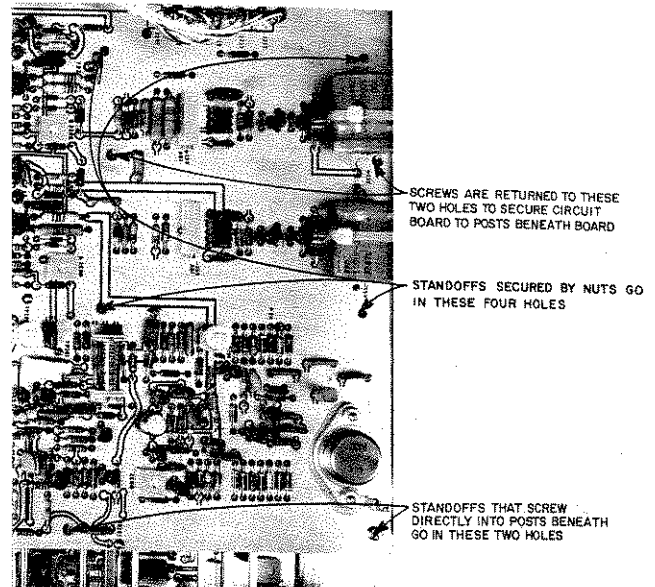

Figure IV-18. MODEL 162 UPPER CIRCUIT BOARD SHOWING DIGITAL STORAGE OPTION MOUNTING HOLES
- (1) Check to be sure that the Model 162 line cord is unplugged. Then remove the top cover, which is secured by two screws on the underside of the overhang at the rear of the instrument.
- (2) Remove the four screws that secure the mainframe upper circuit board in place. With the screws removed, it should be possible to rotate the board upwards (hinges are at left edge of board).
- (3) Take four of the six standoffs supplied and mount them with nuts in the four holes indicated in Figure IV-18. Note that these are NOT the four holes from which the screws were removed in the preceding step.
- (4) Rotate the board back to its original position and secure it, using two of the screws removed in step 2. Figure IV-18 indicates where the screws are to be located.
- (5) Take the remaining two standoffs and screw them into the front pair of holes as indicated in the figure.
- (6) Position the Digital Option board, component side up, and with the cable extending to the left, above the mainframe upper circuit board such that each of the six option-board mounting holes is directly above the corresponding mounting post (standoff) installed in the preceding steps.
- (7) Secure the Digital Option board to the six mounting posts, using the six 9/16" long standoffs/screws provided.
- (8) Plug the option-board cable into the sixteen pin matching connector located towards the left-hand edge of the mainframe upper circuit board. **NOTE:** Do not "twist" the cable. Just fold it naturally and plug it in. Pay no attention to any "mismatch" of connector-pin numbers.